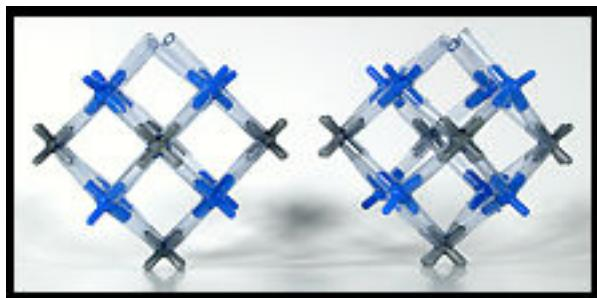

Fig. 6 Duplicate models after bonding four fluorides.
3. Attach three bonds to each of four fluorides. Use the four fluorides to bridge the gaps between the four calciums. Make sure that the unattached bonds on the fluorides touch each other. See Fig. 6.
4. Repeat steps 1 through 3, so that you now have two of the same model. See Fig. 6. Each of these models will eventually be seen in the completed crystal as two octahedral holes between calcium layers. Each calcium ion will be located on the face of a cube.